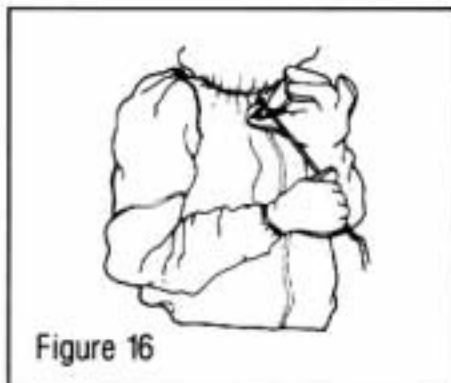

Figure 16
14. Once inner bib is smoothly tucked down inside parka, cinch neck of containment suit snugly around your neck using barrel lock. Containment suit should fit snugly, but not too tightly, since you want air discharged from the hood to ventilate containment suit (see Figure 16).